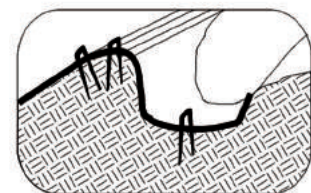

Fig. 6
- Secure the edges of the blankets along the longitudinal trenches on the top of slopes with staples at 12" centers (Fig. 6).